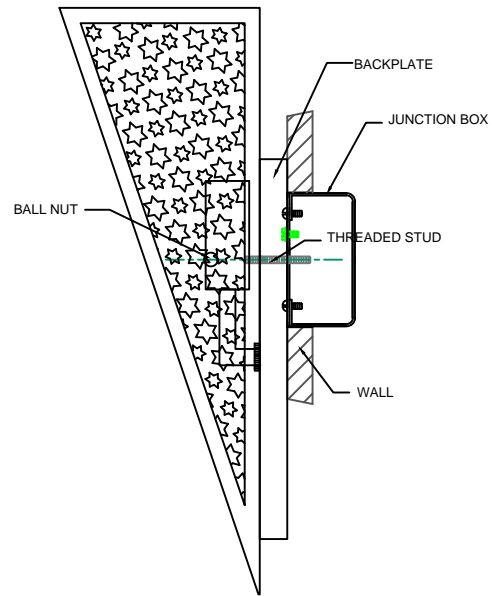

FIGURE-02
5. Attach the backplate to the mounting plate and secure it with ball nuts. (See Figure-02)